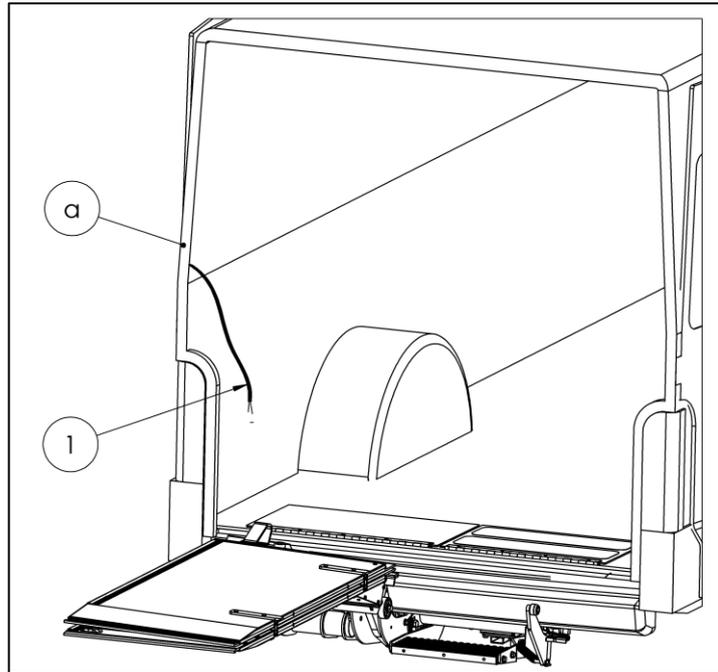

Fig. 68
- Find the cable connection point for the license plate light in the C column (a) on the Mercedes Benz Sprinter (see Fig. 68).